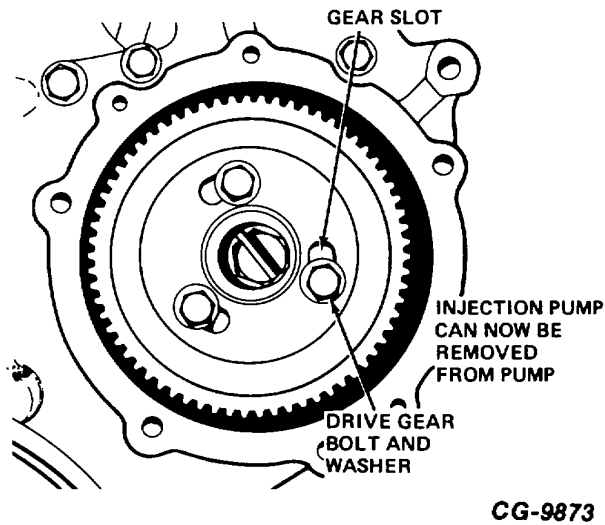

Figure 22. - Injection Pump Drive Gear
14. Remove injection pump drive gear bolts and washers from injection pump hub and remove pump from engine (Figure 22).